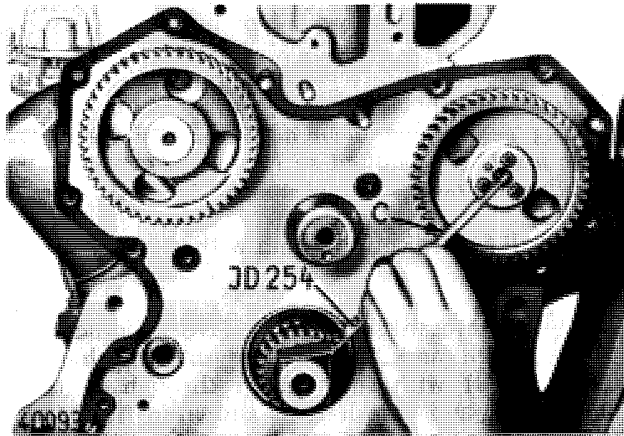

Fig. 4 - Timing Injection Pump Gear, Using Timing Tool No. JD 254
6. With the crankshaft set in TDC position as indicated in item 2, align mark "c" (fig. 4) stamped onto injection pump gear with line drawn through center of crankshaft and pump shaft as shown in fig. 4, using timing tool No. JD 254 and rotating the injection pump shaft. **CAUTION:** Use timing mark indicating number of cylinders on respective engine.